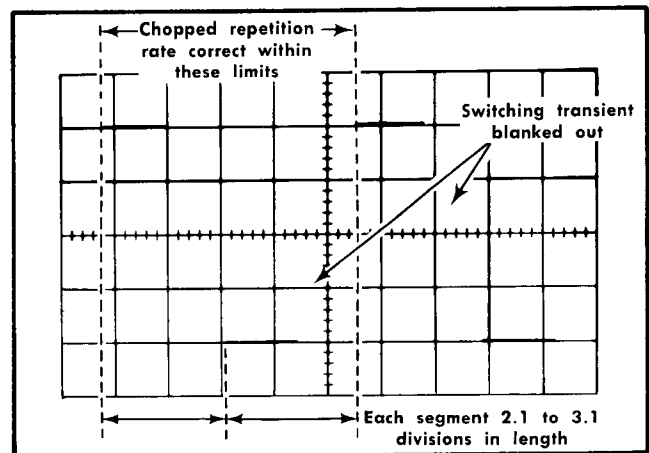

Fig. 6-61. Typical CRT display when checking chopped repetition rate and blanking.
- d. CHECK—Each cycle for duration of 4.2 to 6.25 divisions (one megahertz, $\pm 20\%$; see Fig. 6-61).
- e. CHECK—Length of each segment between 2.1 and 3.1 divisions (416 to 625 nanoseconds; see Fig. 6-61).
- f. CHECK—CRT display for complete blanking of switching transients between chopped segments (see Fig. 6-61).